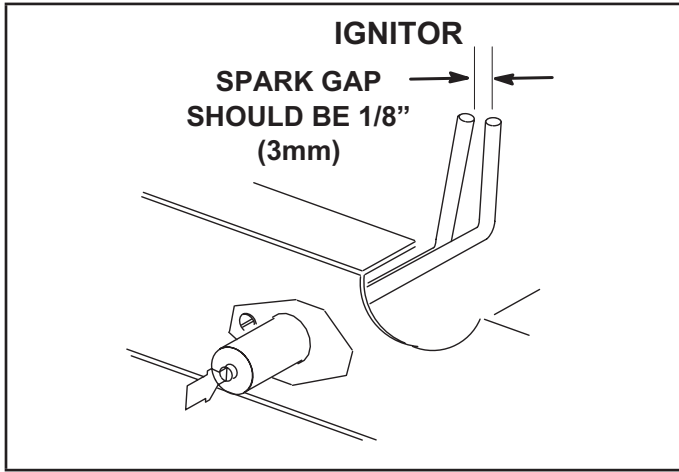

FIGURE 31
- 4 - Locate the ignitor under the left burners. Check ignitor spark gap with appropriately sized twist drills or feeler gauges. See FIGURE 31 and TABLE 19..